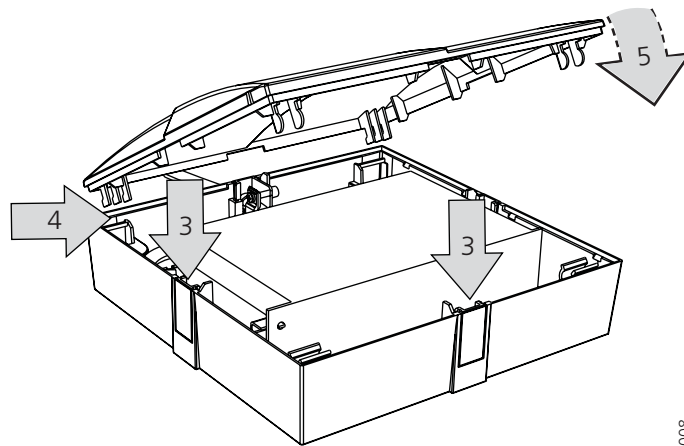

Figure 8. Mounting of rectangular covers and replacing the covers.
- 4 Mount rectangular covers (which are provided in the parts bag) at the openings where there are no adjacent modules (3), see figure 8 below.
- 5 Fasten the cover's angled hooks on the holders (4).
- 6 Snap on the cover (5).
- 2 Mount the covers, see figure 8 on page 7.